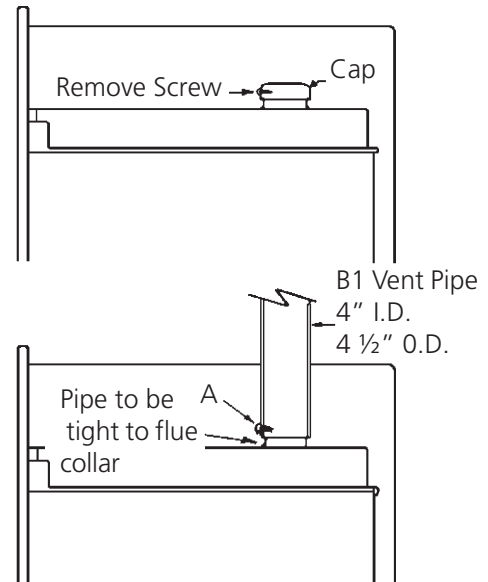

Figure 8
- A. Place the pipe on the vent outlet and drill a  $\frac{3}{32}$ " diameter hole at point "A" (see figure 8). Hole must be drilled so that holes in pipe and flue collar line up.
- B. Fasten the pipe to flue collar with one screw. (see figure 8).